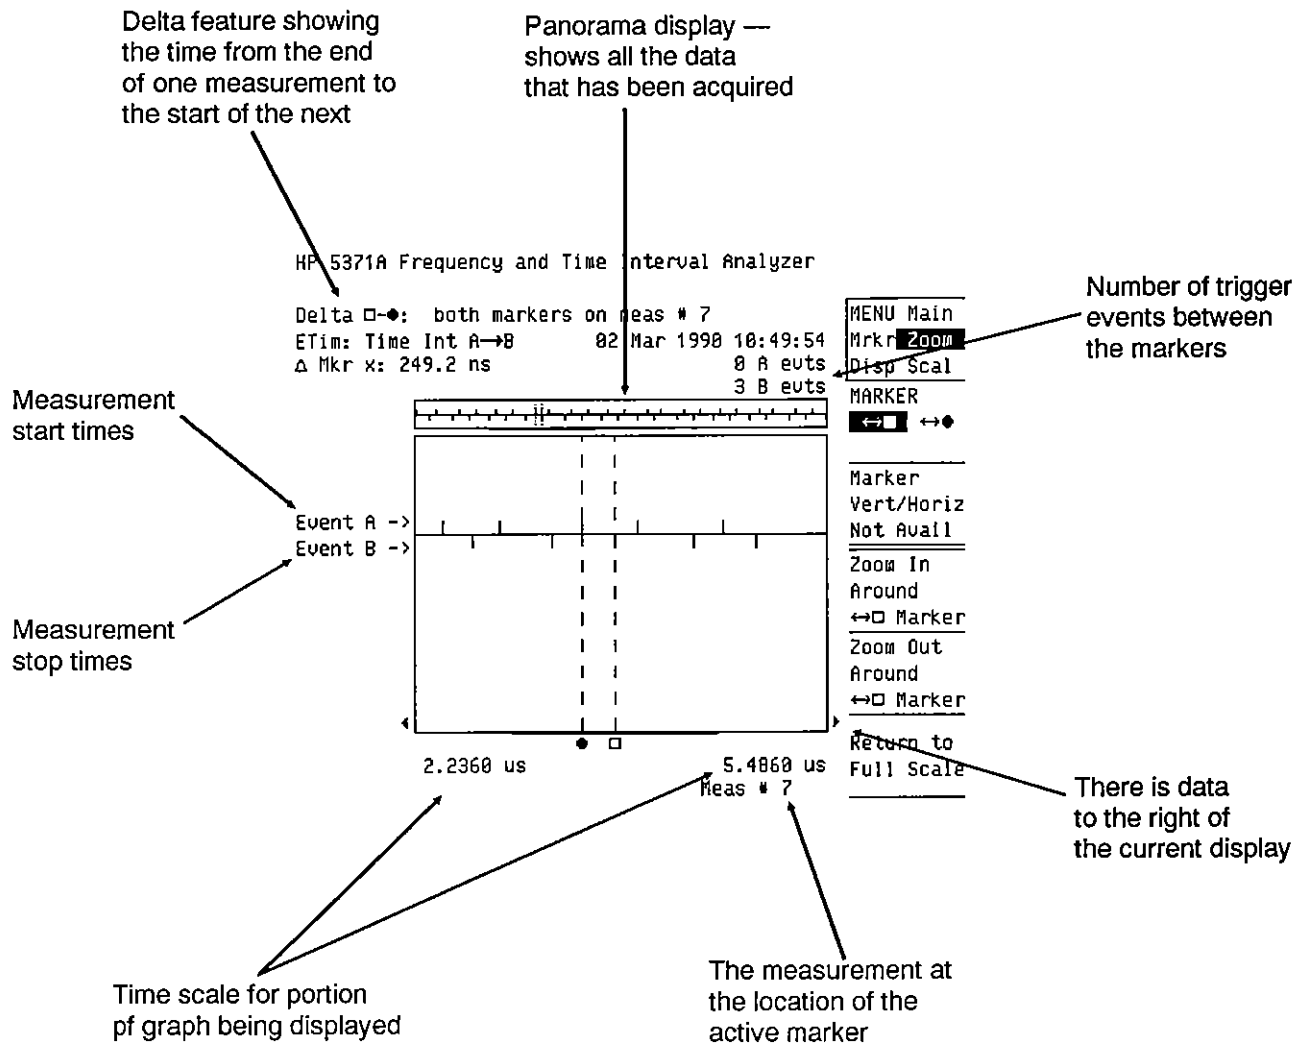

Figure 16-21. Event Timing Graph Organization
*Figure 16-21* shows an Event Timing graph with information on the organization of the graph.